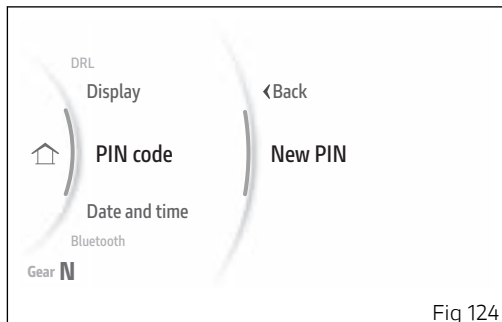

Fig 124
- From the Interactive Menu, use buttons (1) and (2) to select the item "Setting menu" and press ENTER (3).
- Select the "PIN Code" item and press ENTER (3).
- Select the "New PIN" item (Fig 124) and press ENTER (3).